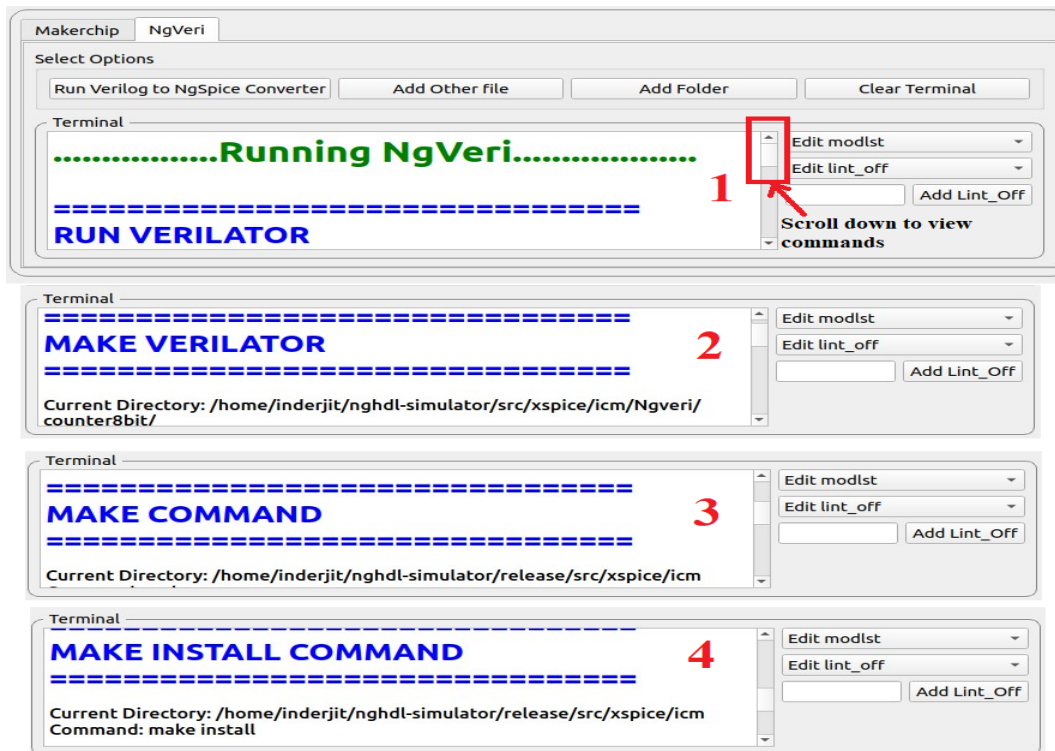

Figure 10.23: Commands in NgVeri
3. First command after clicking **Run Verilog to Ngspice Converter** button in NgVeri terminal is **RUN VERILATOR** highlighted as 1 in red color in Fig. 10.23.